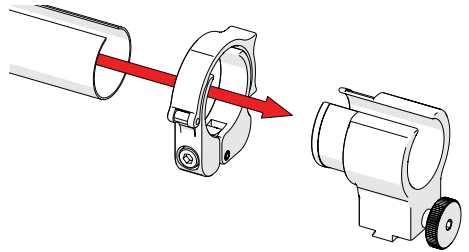

Fig. 57 - Slide tube around mount
2. Slide the clamp around the tube first and then slide the tube around the outside of the zipper tube dovetail mount (Fig. 57). Align the zipper opening and the zipper tube dovetail mount opening.